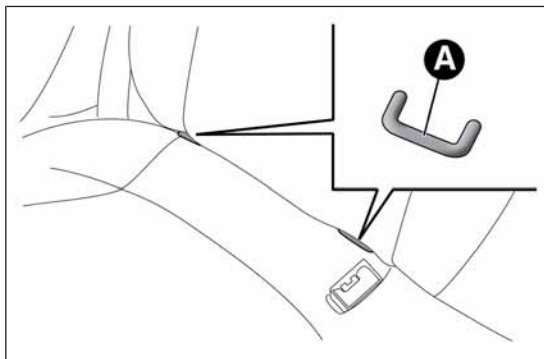

fig. 101
- ❑ secure the child seat to the dedicated lower metal rings A fig. 101, positioned between the backrest and the cushion of the rear seat;